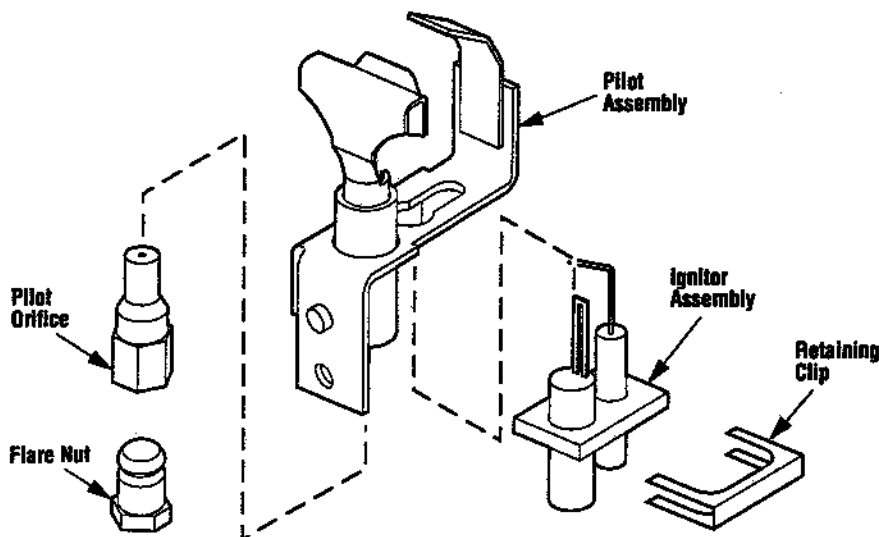

Figure 53
**Step 5. Electronic Models** - Remove the gas type selector plug and turn it around to show the appropriate gas type and reinstall the selector plug. Gas type in use should be visible on the selector plug when it is installed. Refer to Figure 53 and replace the pilot orifice as follows: Remove the ignitor assembly retainer clip, and carefully remove the ignitor assembly. Exercise extreme care to prevent damage to or breakage of the ignitor assembly.